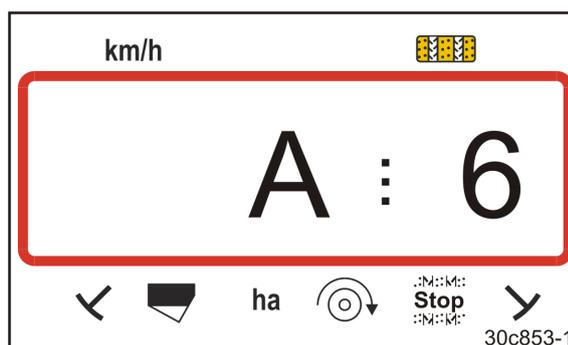

Fig. 47
- the display (Fig. 47) appears